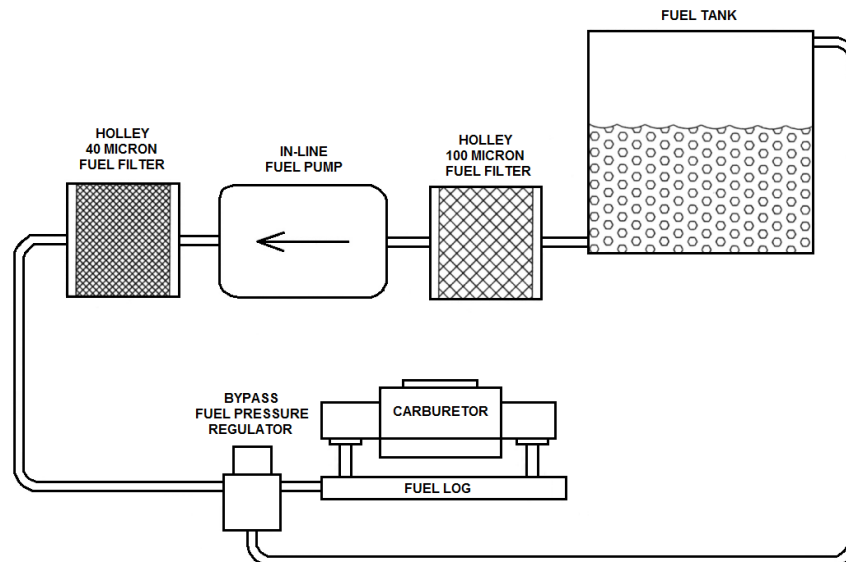
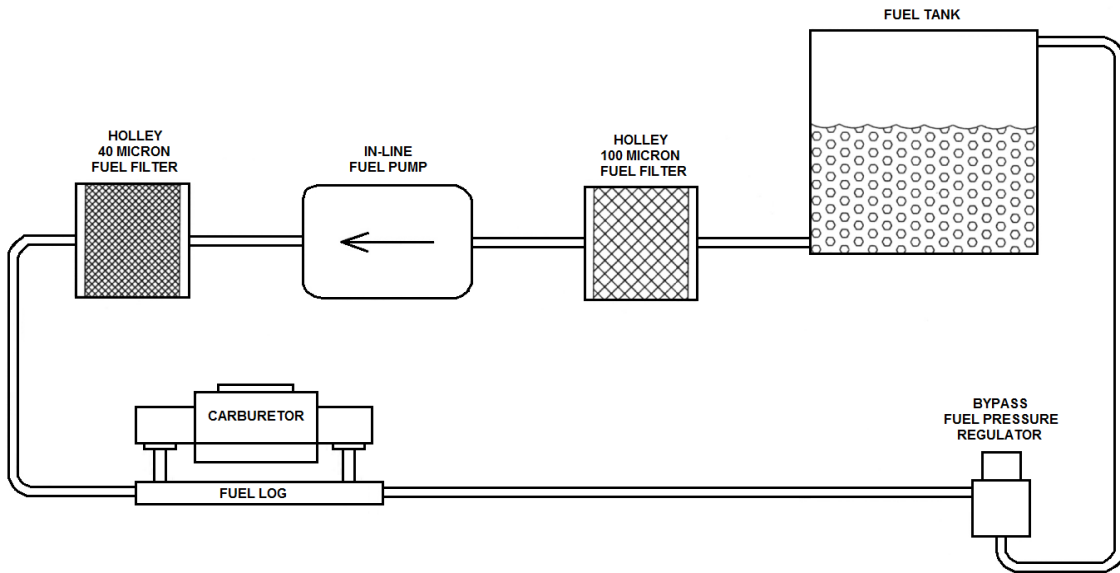

Figure 2a (Carburetor Only)
Figure 2b (Carburetor Only)
2. Connect the outlets of the regulator to the carburetor (if the regulator is installed before the carburetor **per Figure 2a**). If the regulator is installed after the carburetor (**Figure 2b**) the outlet needs to be plugged.